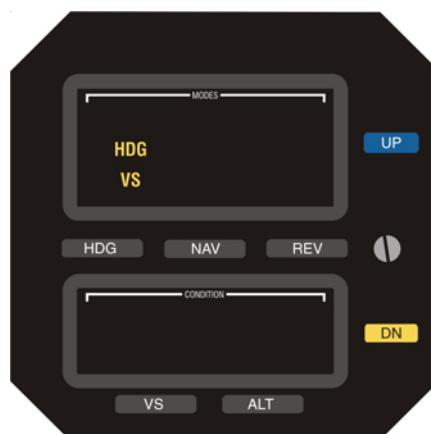

Fig. 2-7. AP Display, HDG and VS Modes Engaged
42. Press VS mode selector switch to engage vertical speed mode.	A/C Control Wheel stops. HDG and VS annunciations only appear on AP display, as shown in Fig. 2-7.